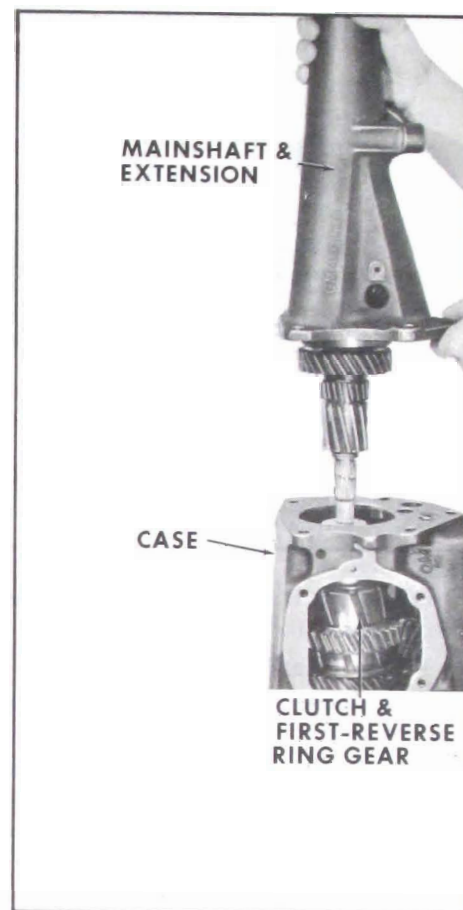

Figure 4-32—Mainshaft and Extension Installation
18. Align lugs on synchronizer rings with slot in mainshaft so that the lugs slide in slots on gear. Be sure that the clutch gear roller bearings are still in position. Push the shaft into the clutch sleeve until the extension is tight against the case. See Figure 4-32. Install bolts and lock washers. Torque to